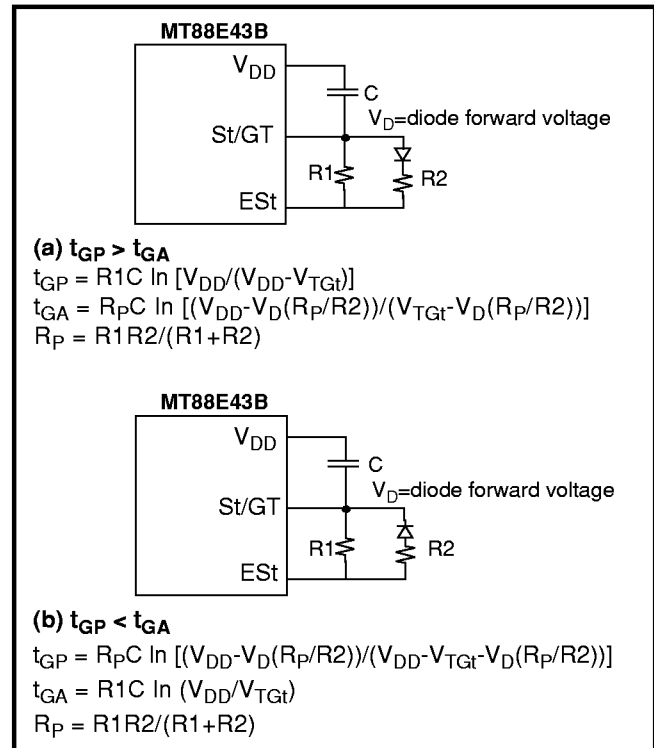
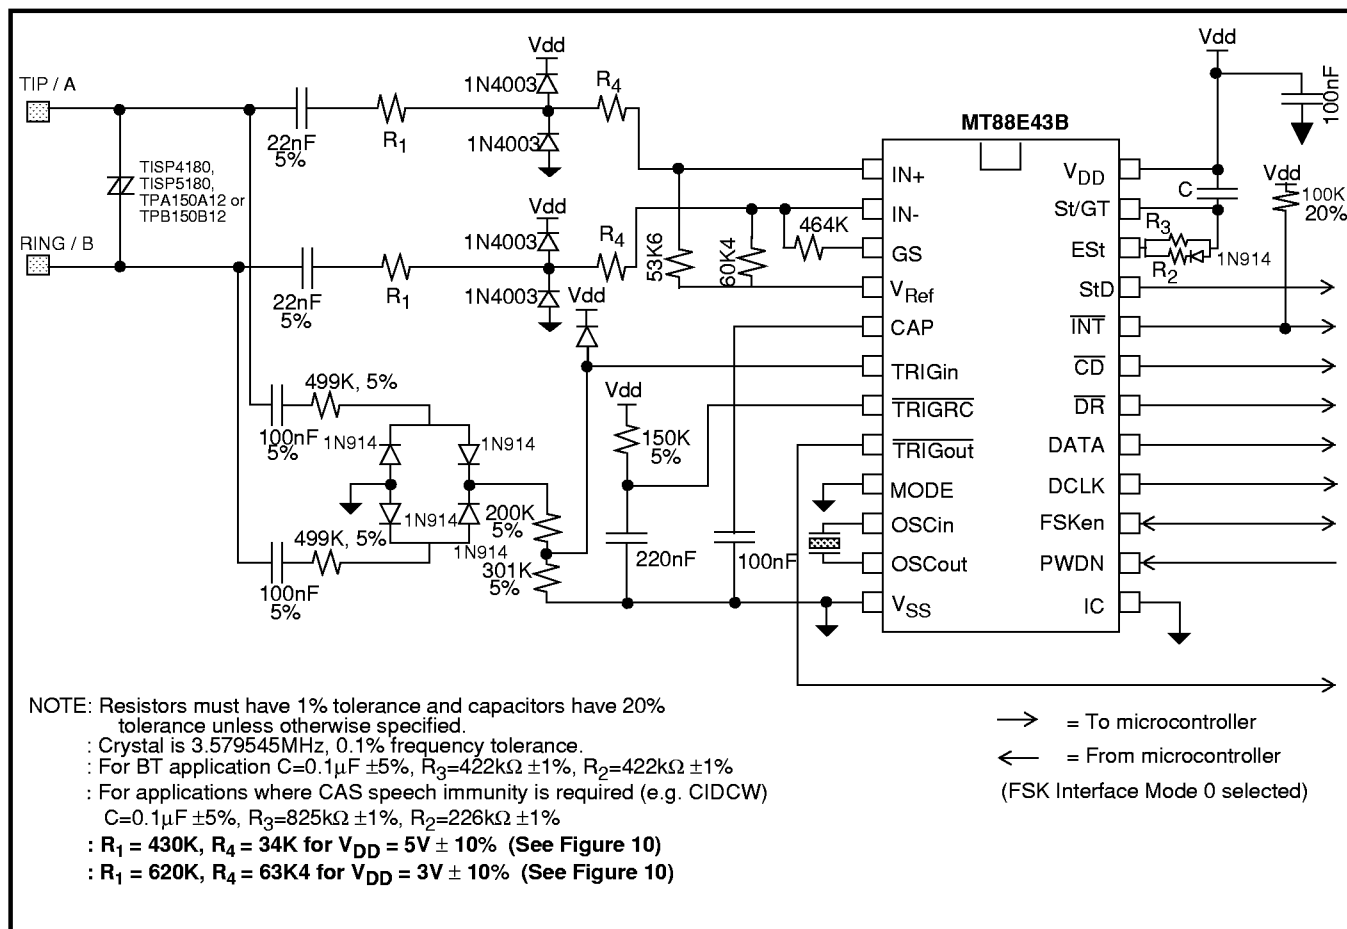
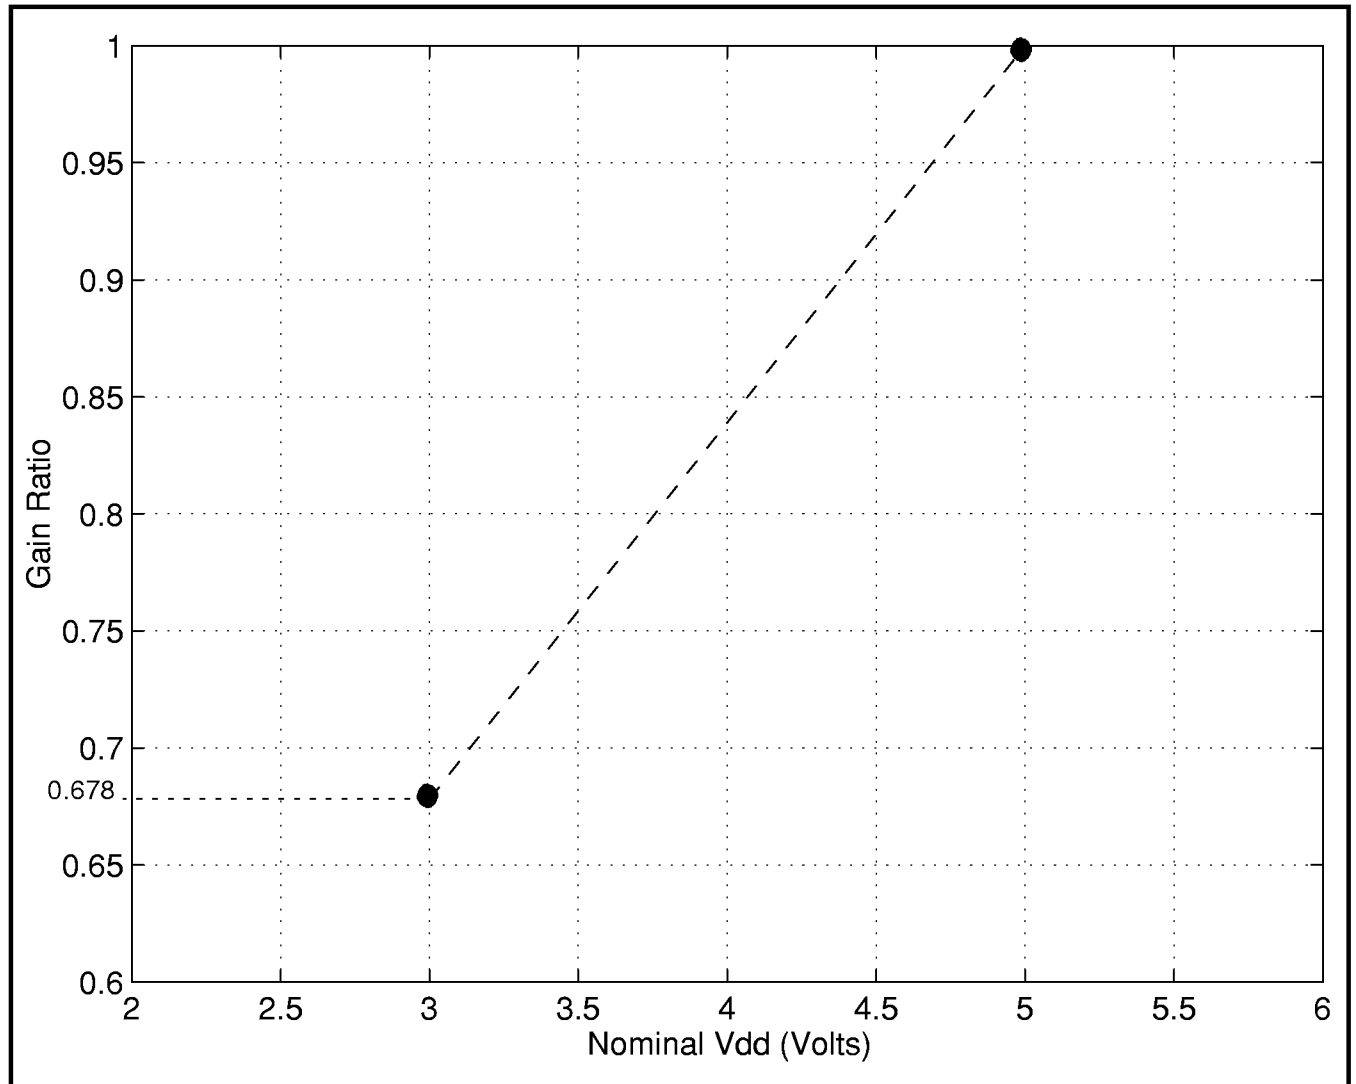

Figure 5 - Guard Time Circuits with Unequal Times
Figure 9 - Application Circuit
Figure 10: Gain Ratio as a function of Nominal Vdd
BT specifies that the idle state tone alert signal recognition time should not be less than 20ms when both tones are used for detection. That is, both tones must be detected together for at least 20ms before the signal can be declared valid. This requirement can be met by setting the t_{GP} (refer to Figure 5) to at least 20ms.
BT also specifies that the TE is required to apply a DC wetting pulse and an AC load 15-25ms after the end of the alerting signal. If $t_{ABS}=t_{DA}+t_{GA}$ is 15 to 25ms, the DC current wetting pulse and the AC load can both be applied at the falling edge of StD. The maximum t_{DA} is 8ms so t_{GA} should be 15-17ms. Therefore, t_{GP} must be greater than t_{GA} . Figure 5(a) shows a possible implementation. The values in Figures 9 and 11 ($R_2=R_3=422K$, $C=0.1\mu F$) will meet the BT timing requirements.
The circuits shown in Figures 9 and 11 are application circuits for the MT88E43B. As supply voltage (V_{DD}) is decreased, the threshold of the device's tone and FSK detectors will be reduced. Therefore, to meet the BT or Bellcore tone reject level requirements the gain of the input opamp should be reduced according to the graph in Figure 10. For example when $V_{DD}=5V$ ($\pm 10\%$), R_1 should equal 430k Ω and R_4 should equal 34k Ω ; and if $V_{DD}=3V$ ($\pm 10\%$) R_1 should equal 620k Ω and R_4 should equal 63.4k Ω . Resistors R_1 and R_4 are shown in Figures 9 and 11.
The circuit shown in Figure 9 illustrates the use of the MT88E43B in a proprietary system that doesn't need to meet FCC, DOC, and UL approvals. It should be noted that if glitches on the Tip/Ring interface are of sufficient amplitude, the circuit will falsely detect these signals as ringing or line reversal.
Note: In the application circuits shown in Figures 9 and 11, the Gain Ratio of MT88E43B opamp is
3. Tip/Ring signal level. Input opamp configured to 0dB gain at V_{DD}=5V±10%, -3.38dB gain at V_{DD}=3V±10%. (see Figure 10)